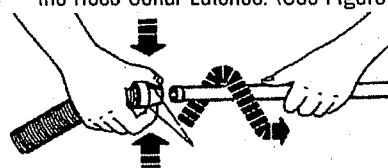

Figure 13a
2. Hold the Hose Collar in one hand and, using your thumb and forefinger, press in both of the Hose Collar Latches. (See Figure 13a.)
3. With your other hand, pull the Wand all the way out of the Hose Collar. (See Figure 13a.)